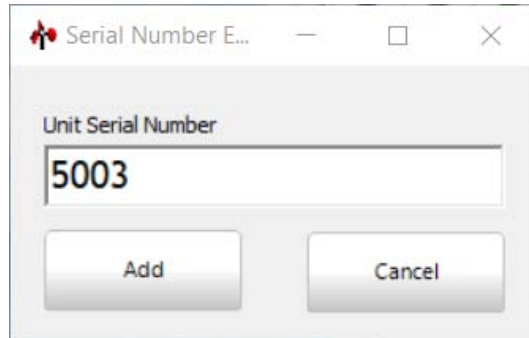

Figure 35
- Click on the  button, the Serial Number entry window will be displayed (**Figure 35**)